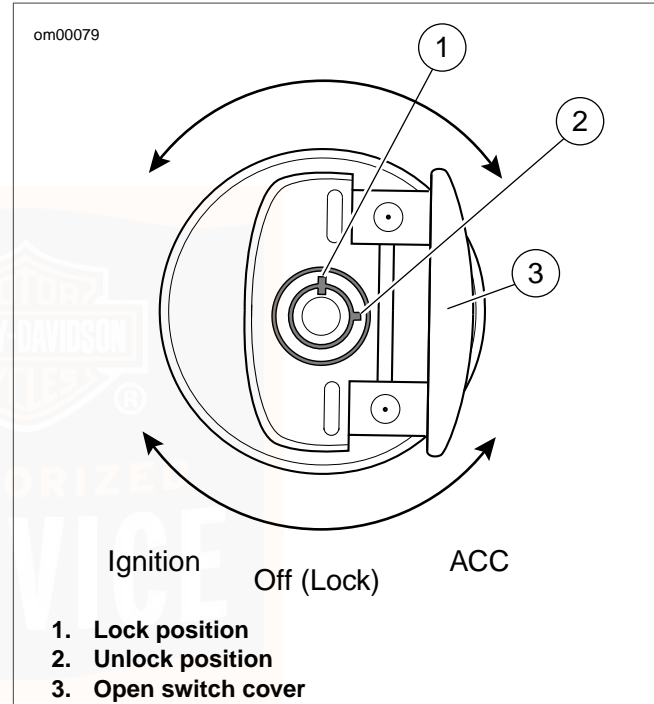

Figure 21. Ignition/Headlamp Key Switch: Softail Models
1. See Figure 21. Verify switch is in LOCK position.
2. See Figure 21. Turn ignition/headlamp key switch to ON and push the START switch to operate starter motor.
2. See Figure 21. Turn the ignition key to the OFF position to turn the ignition power completely OFF.